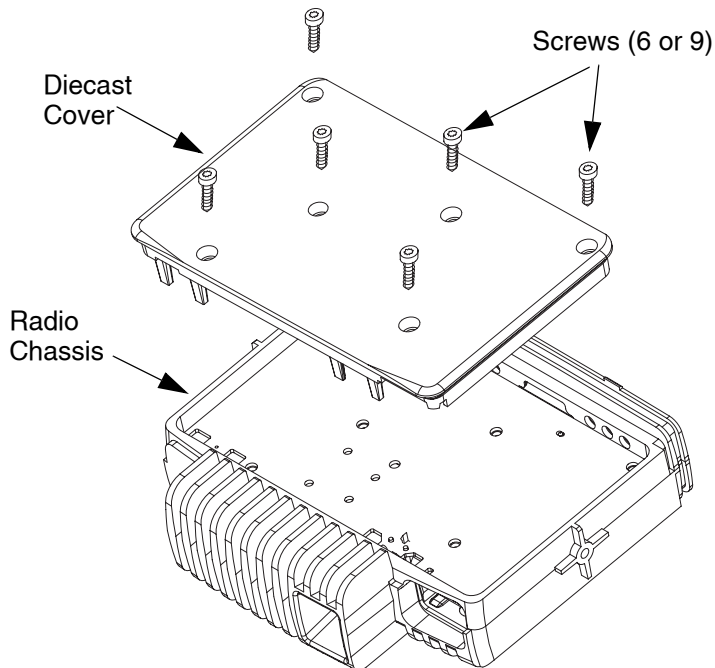

Figure 2-6: Diecast Cover Removal
1. Remove six screws (nine for LowBand) from the diecast cover using the T20 TORX™ driver as shown in Figure 2-6.